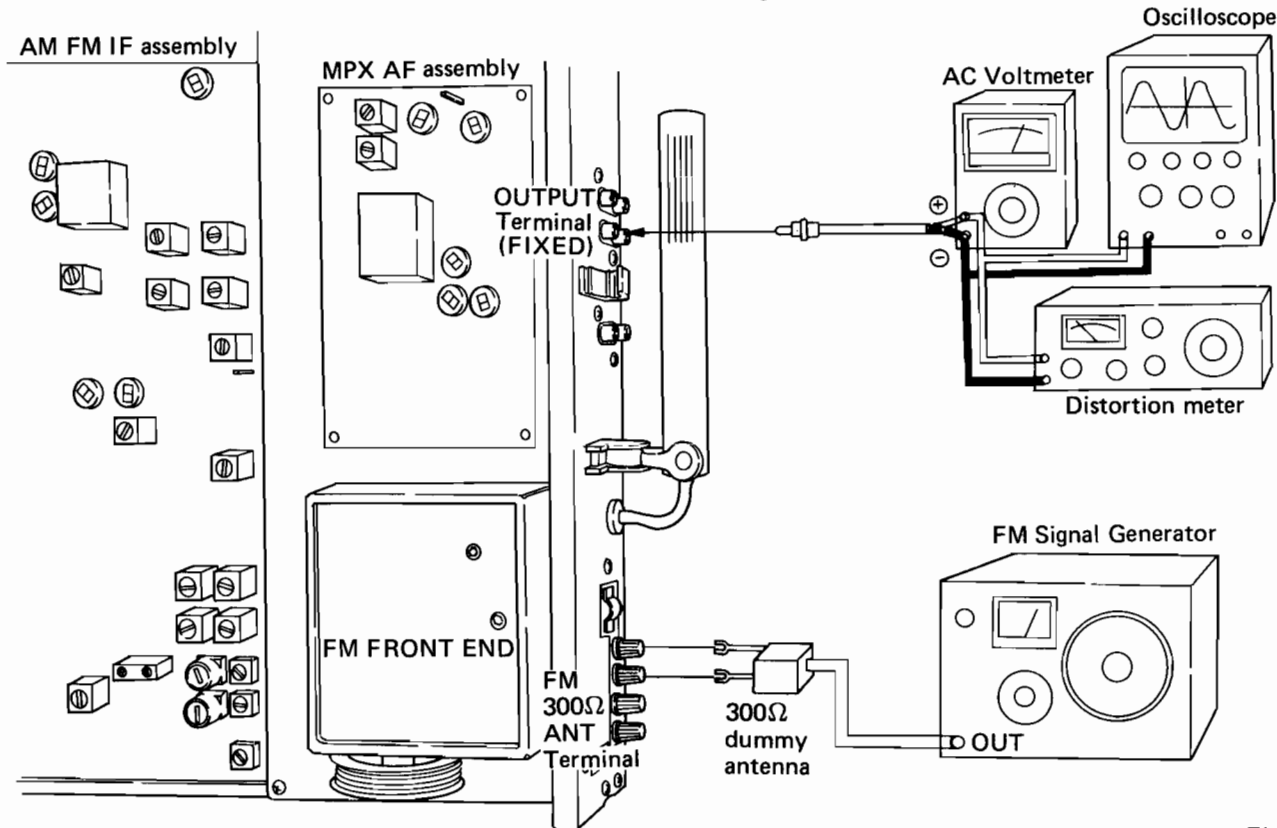

Fig. 14
2. Connect the test instruments as shown in Fig. 14, and adjust FM SG to 90MHz, modulation frequency to 400Hz, 100% modulation, and output of 10dB.